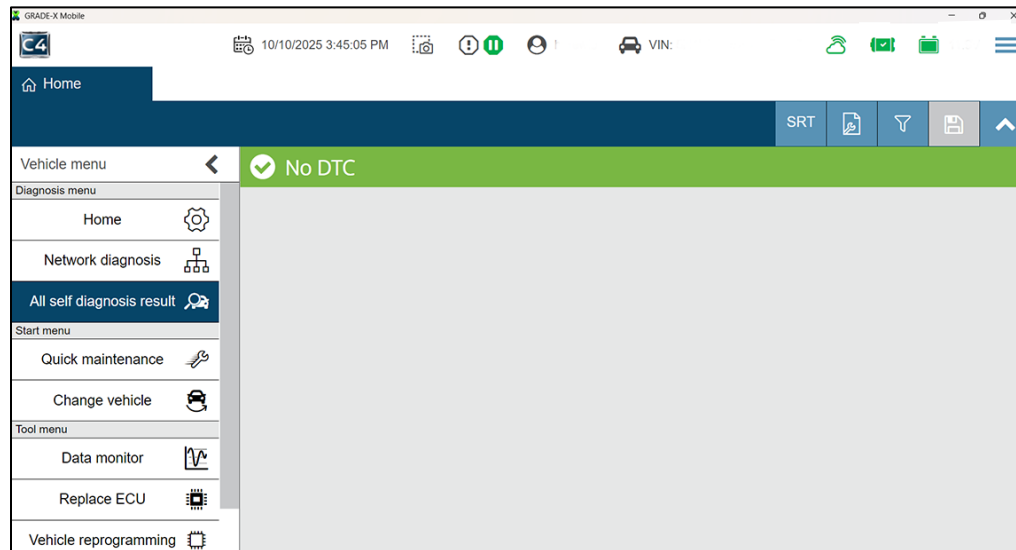

Figure 19
23. Verify all DTCs have erased (Figure 19).